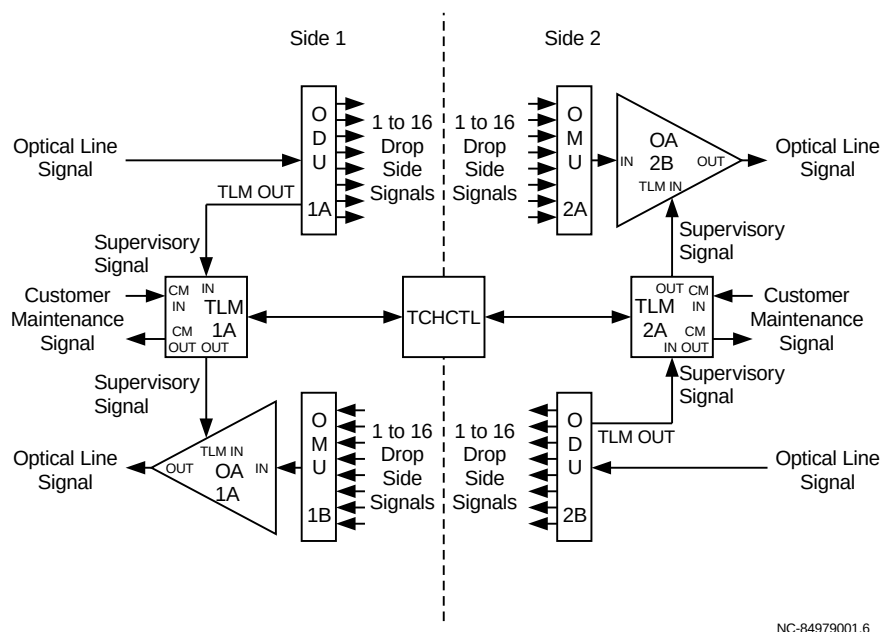

Figure 5-11. Single Optical Amplifier DUAL End Terminal Transmission Block Diagram
Figure 5-11 shows a transmission block diagram of the End Terminal Shelf with a single Optical Amplifier (OA) circuit pack provisioned as a DUAL end terminal. DUAL indicates the end terminal has two sides. Side 1 represents lines 1 and 3. Side 2 represents lines 2 and 4. Side 1 is equipped as a 1A-RCV end terminal, and side 2 is equipped as a 1A-TX end terminal.